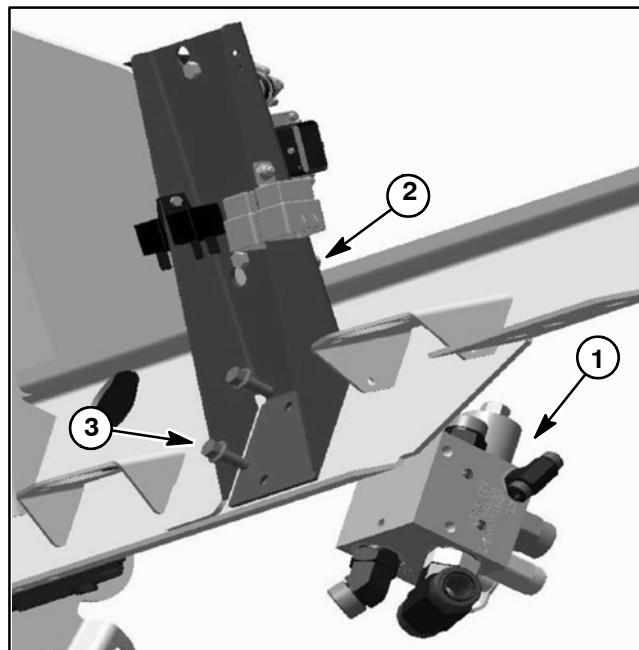

Figure 102
NOTE: The flange head screws that secure the right side PTO manifold also secures the controller mount to the frame (Fig. 102). Support controller mount before removing the right side PTO manifold.
- NOTE:** Make sure that the controller mount is secured when installing the right side PTO manifold (Fig. 102).